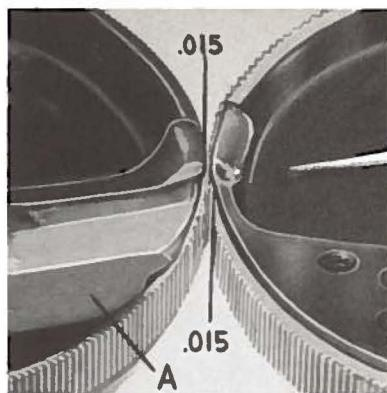
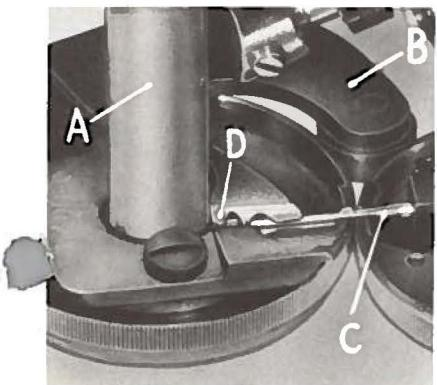

Fig. 7
Fig. 8
Install shim and stationary needle guard (A, Fig. 7) to front feed cup shaft bearing (A, Fig. 8), snugging up screws. This needle guard is set correctly only when the following conditions prevail:
2. The edge of the right section, adjacent to the slot, is .015 inch from bottom of the teeth in front cup (Fig. 7).
Position the stitch tongue support so its front edge is .015 inch in back of the bottom of the rear feed cup teeth (Fig. 7). The support should barely contact the top edge of cup. Tighten screws.
Gauge No. 21227 CC (B, Fig. 8) is used to establish inward-outward travel of the needle (C).